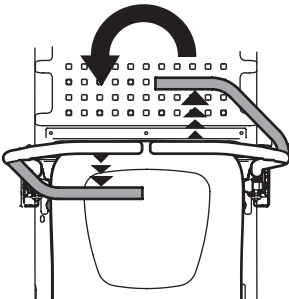

Figure 28
3. To turn counterclockwise, move the lapbar right drive control lever forward while simultaneously moving the left lapbar drive control lever rearward (Figure 28).